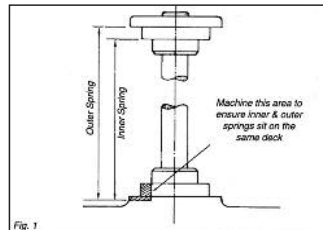

Fig. 1
5. Upon installation valve springs must be checked to ensure that coil binding does not exist at full lift. There must be a minimum clearance of .040" (1mm) between the centre coils. (Fig 1)
6. When using KENT valve springs ensure that they are fitted as per instructions with the correct installed height. In some instances the cylinder head will need machining. (Fig 1)